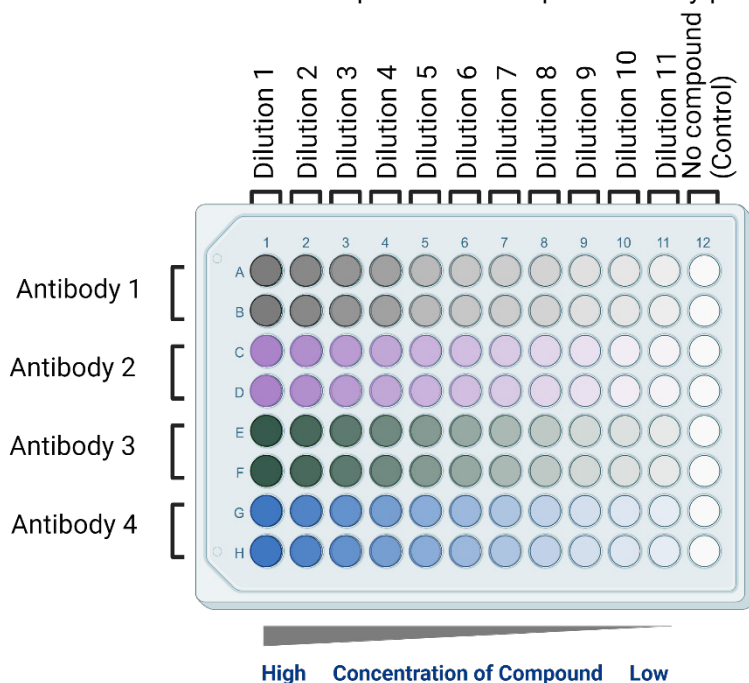

Figure 11. Assay Plate Map - Anti-Ligand Antibody
- Using a 12-channel pipette, add 10 μ L of each 11X antibody/agonist mix in duplicate to the designated antibody rows (e.g., antibody/agonist mix 1 in Rows A; and B; antibody/agonist mix 2 in Rows C and D). Repeat for the remaining antibody/agonist mix as indicated in Figure 11.